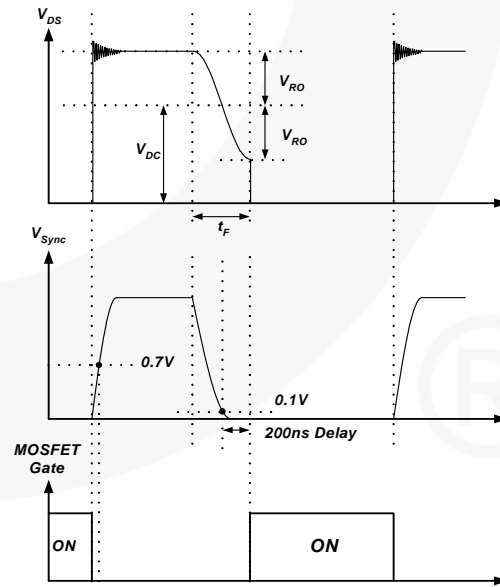

Figure 15. Valley Switching Waveforms
3. Synchronization: The FSQ510 (H or M) employs a valley-switching technique to minimize the switching noise and loss. The basic waveforms of the valley switching converter are shown in Figure 15. To minimize the MOSFET switching loss, the MOSFET should be turned on when the drain voltage reaches its minimum value, as shown in Figure 15. The minimum drain voltage is indirectly detected by monitoring the V_{CC} winding voltage, as shown in Figure 15.